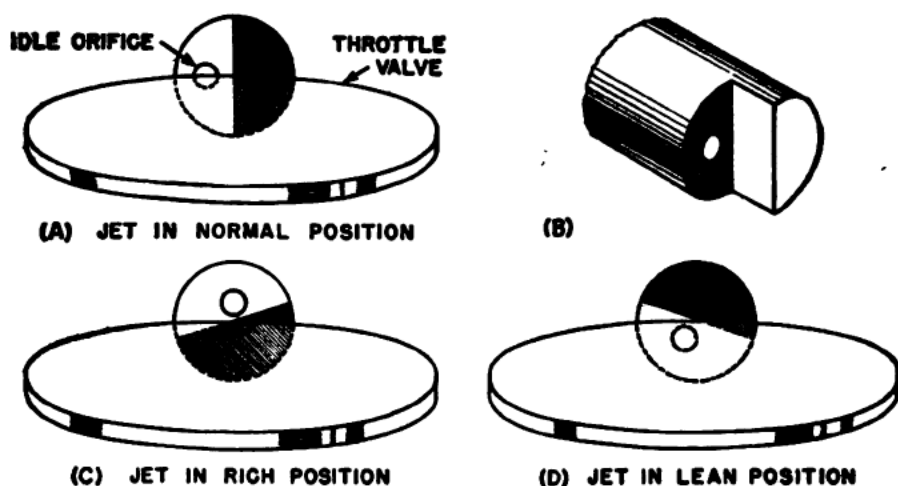

Figure 43.—Diagram showing action of idling device.
With the jet in its normal position, figure 43, view (A), half of the open segment of the plug, view (B), is above the edge of the throttle valve, and the other half is below the edge. The upper end of the opening is in communication with the partial vacuum in the manifold above the throttle valve, and the lower end is open to the inside of the carburetor below the throttle valve. The suction in the manifold causes air from below the throttle valve to pass in through the open
As the throttle is opened the area of the opening above the throttle valve is increased, and that below the valve is decreased, figure 43, view (C). As the amount of air flowing past the partly opened throttle has increased, the greater amount of fuel taken in through the upper opening is sufficient to form a combustible mixture necessary for the increased speed of the engine. The size and shape of the idle bypass can be adjusted by regulating the exposure of the
The mixture required for extremely low speeds is excessively rich, but as the idle speed is increased the mixture gradually is reduced to normal. The plug may be turned through a definite angle by means of the idle-control lever, which can be locked in different positions by a spring-loaded pin that fits into holes or notches in the quadrant. In this way the strength of the idle mixture may be controlled from the full-rich position, figure 43, view (C), to the full lean position, view (D), since turning the plug regulates the upper and lower positions of the openings, and consequently controls the ratio of gas to air to obtain the proper mixture.